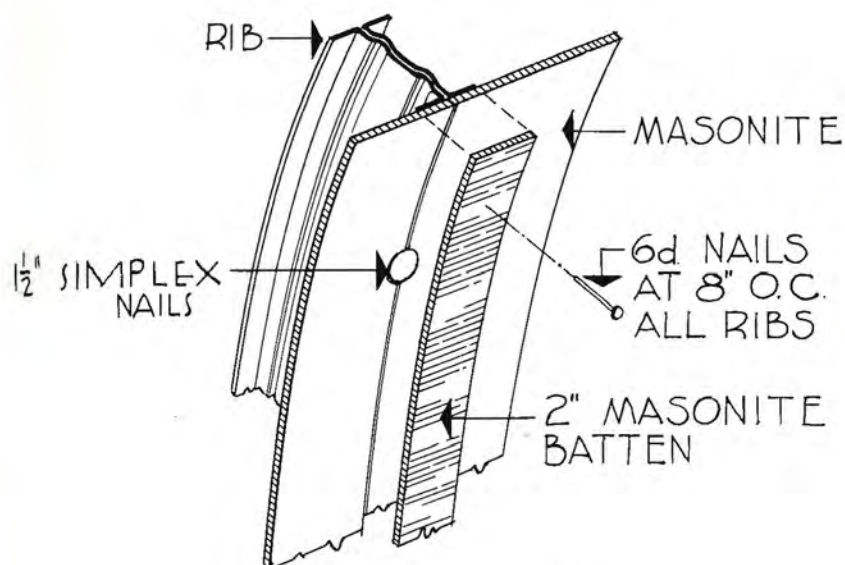

FIG. 2
8. Nail the 2" wide batten strips over the rib joints and around the windows using 6d nails 8" O.C. (See Fig. 2.)